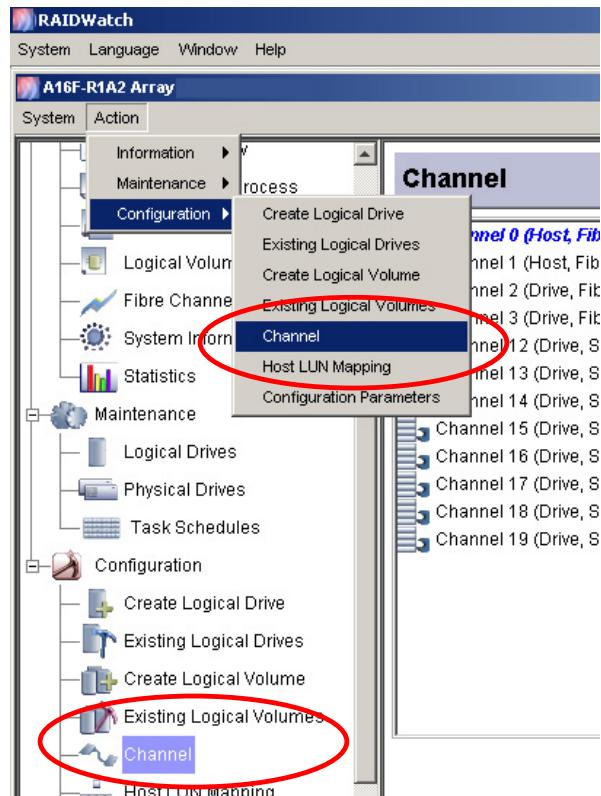

Figure 8-1: Accessing Channel Configuration Window
To access the **Channel** window, use either the command from the Action menu or select the **Channel** icon from the navigation panel. (See *Figure 8-1*).
**Step 1.** Single-click under the **Channel** window to select a corresponding channel. Channel icons are displayed in the left-side panel of the configuration window. The Channel Settings configuration will appear as two separate pages on the right side: **Parameters** and **ID**. (See *Figure 8-1*).